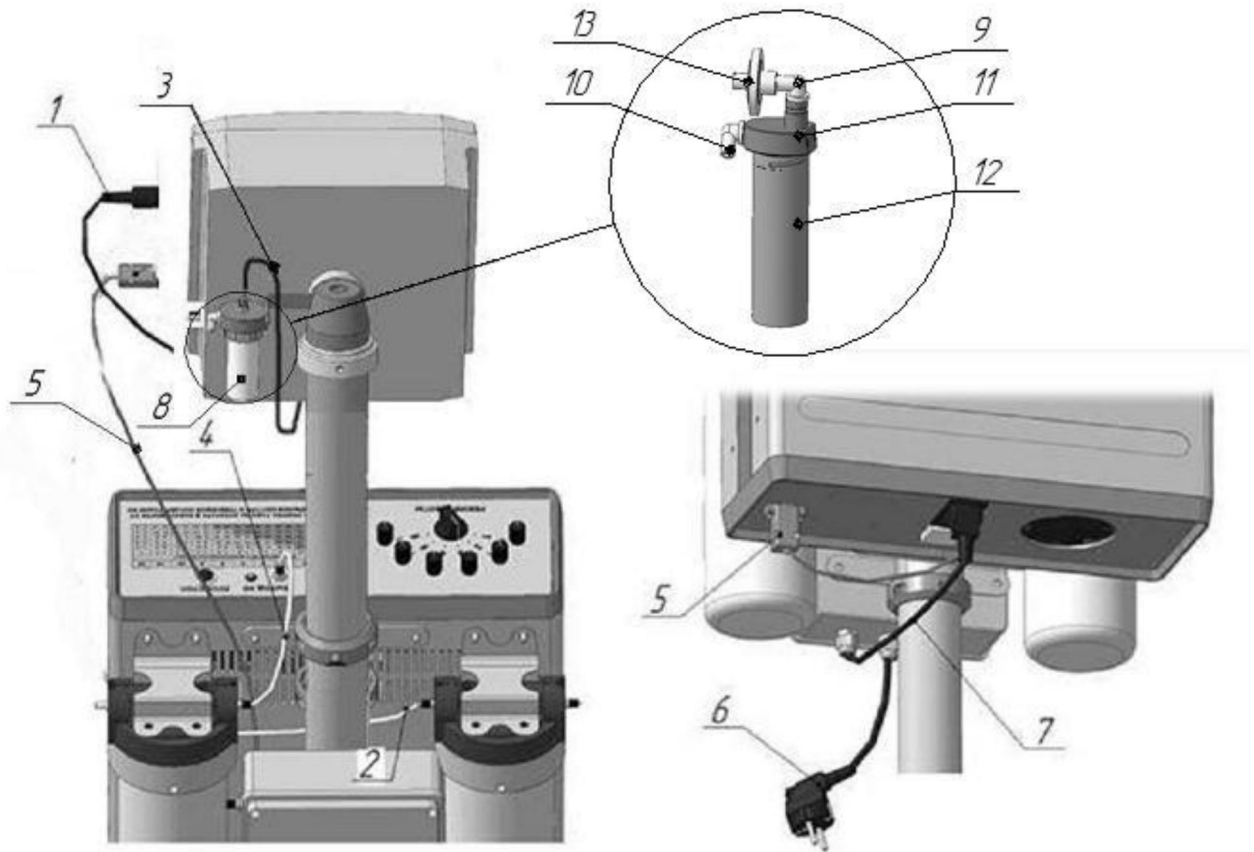

Figure 2.3 - Connecting the Unit units
Connections of the Unit units are shown in Figure 2.3.
A transparent plastic flask 12 should be tightly put on the cover of the moisture separator 11 until it stops (Fig. 2.3).
ATTENTION! During the Unit operation, it is necessary to visually monitor the liquid level in the moisture separator (pos.8 fig.2.3). The liquid level in the flask (pos.12 Fig.2.3) should not exceed 10 ml (mark 10 ml on the flask). If the level is exceeded, the liquid should be drained. To do this, carefully pull the flask off the cover of the moisture separator (pos.11 in Fig.2.3). Then put the empty flask on the cover of the moisture separator until it stops.